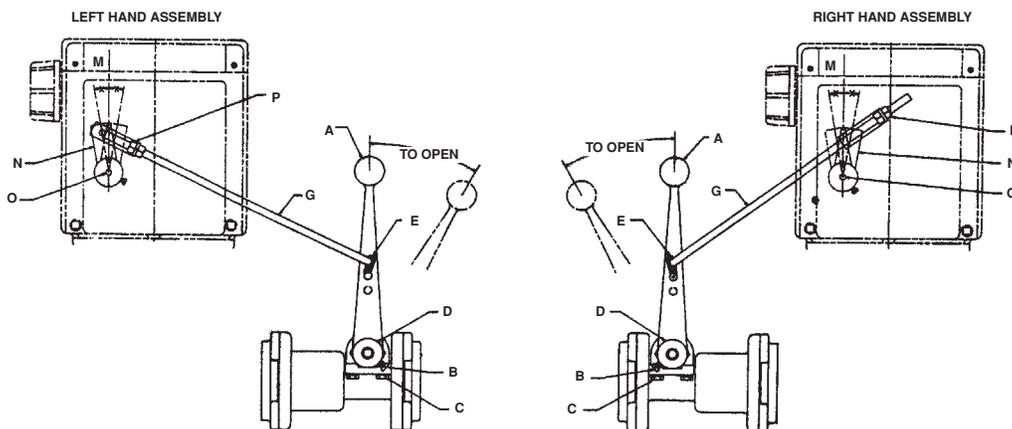

FIGURE 7
1. Depress the emergency stop button on the register and turn the shaft (O) clockwise (as viewed from rear of register).
2. Assemble register arm (N) on knurled knob in position as shown for specific assembly. (See Fig. 7). Arm should move an equal distance each side of vertical center line (M) (Angle $x=x$).
3. Assemble one nut (P) on connecting rod (G) and the other end of the connecting rod to the center hole in handle (A) using washers and cotter pins (E).
4. Open valve all the way. Turn shaft (O) counter clockwise to latch up mechanism. With valve held open tighten nut (P) against register arm link. Then assemble and tighten second nut at (P).
7. After the initial trip occurs the valve should close to the intermediate flow position. This rate will vary depending on product metered. If the valve closes too far, or all the way, adjust nuts (P) to provide additional rod length.
8. It is sometimes necessary to change the position of the handle. This can be done by loosening handle screw (B) and repositioning the handle as follows: if the register mechanism will not latch up, position the handle further toward the register. If the valve will not close, the handle may be positioned away from the register. Fine adjustments may be made by changing the effective length of connecting rod (G) utilizing nuts (P). Effective length of connecting rod (G) may also be varied by positioning the end of the rod in the upper or lower holes in the valve handle.